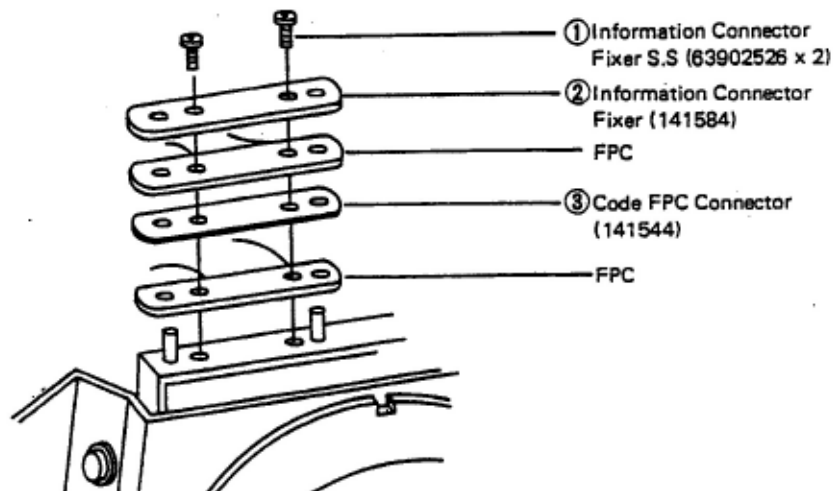

Fig. 55
- f) Remove the respective parts ① ~ ③ shown in (fig. 55) in numerical order.